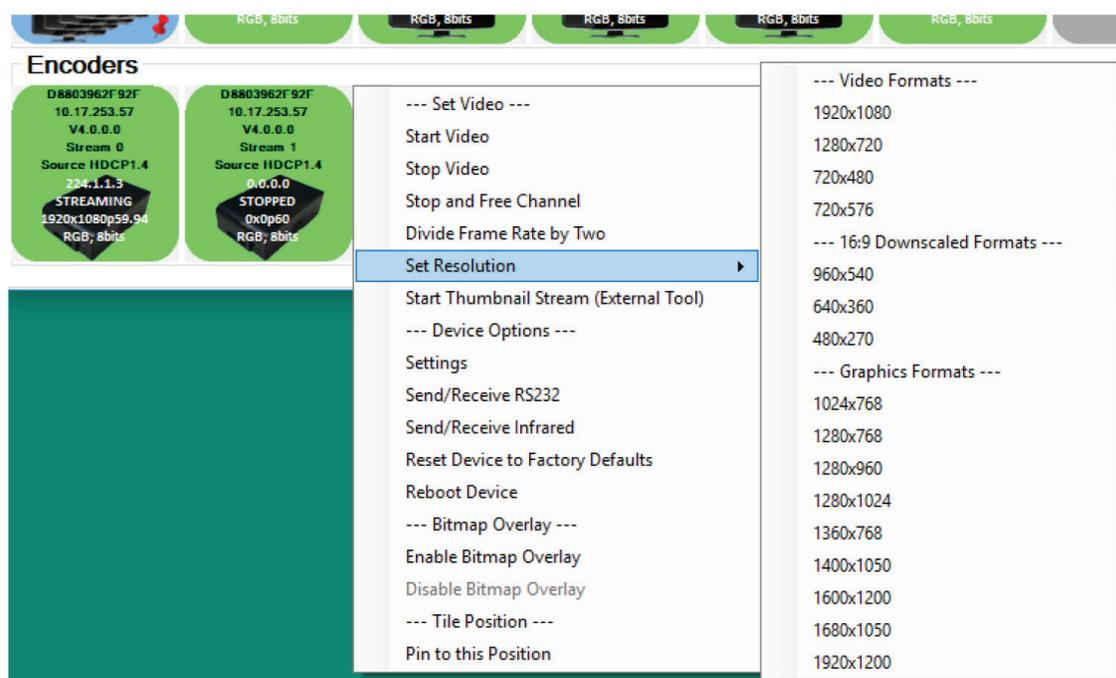

FIGURE 4-15. CHANGING MULTIVIEW RESOLUTION
- ◆ Refer to Figure 4-15, Changing Multiview Resolution.